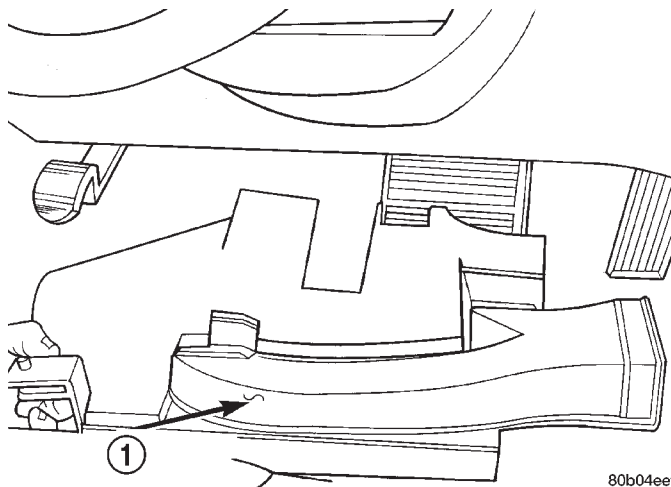

Fig. 41 Panel Removal/Installation
(2) Remove under panel silencer/duct assembly (Fig. 41).